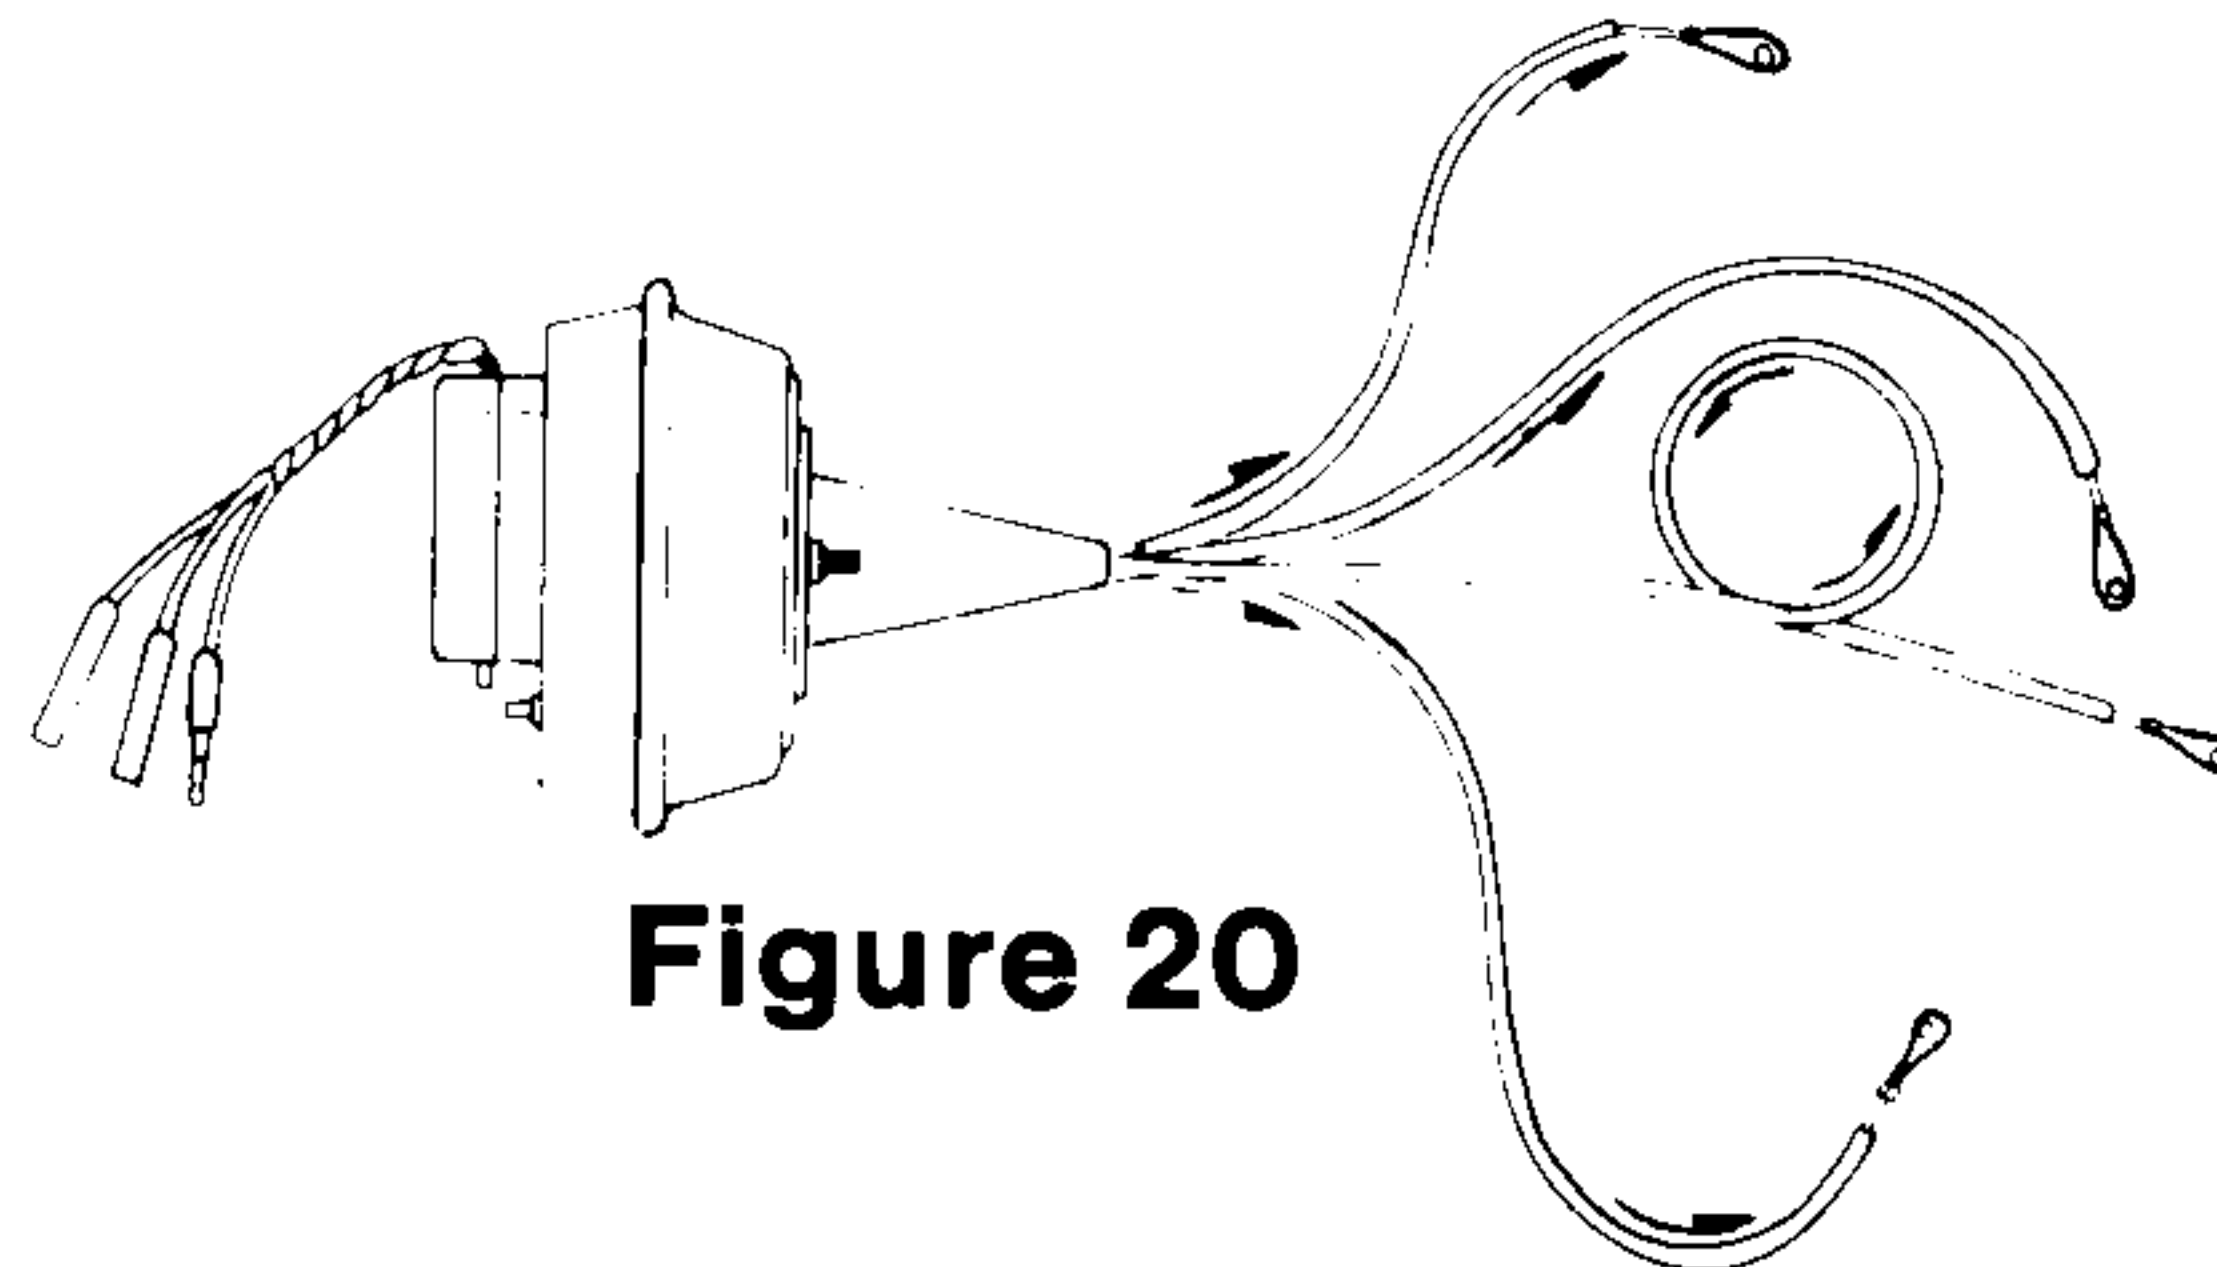

Figure 20
24. Route servo cable to firewall in a smooth manner. **FIGURE 20** illustrates the correct routing configurations. **CAUTION:** Improperly routed servo cable could cause binding or erratic performance. **NOTE:** On some vehicle installations, the servo cable will have some excess length after the system is properly installed. Most excess length can be adjusted out by looping or spiraling cable in a well-curved manner as shown in **FIGURE 20**.